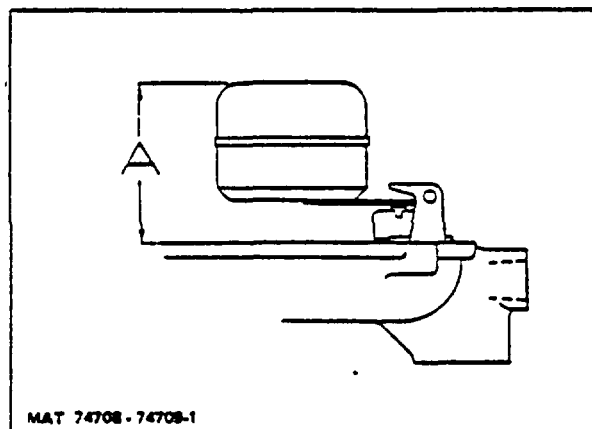

Figure 8. Float Setting
- k. To insure correct fuel level in the float chamber, check distance "A" from top of floats to machined surface of throttle body (no gasket) with throttle body inverted, see Figure 8. This dimension should be 1-5/32" plus or minus 1/32". To increase or decrease distance from top of float bodies to machined surface, use long nose pliers and bend lever close to float body.